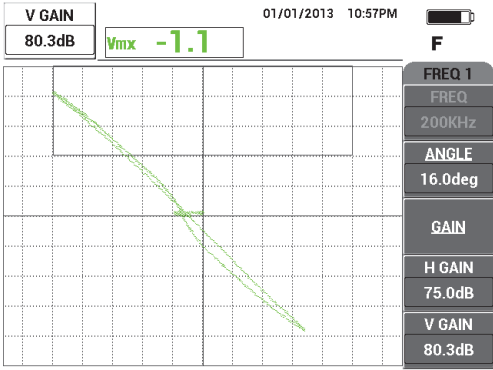

Figure 5-58 The signals extending vertically across the screen
- 7. Press the GAIN key (**dB**) 3 times to access the V GAIN parameter, and then increase the vertical gain with the knob until the signals reach about 80 % of the screen height (see Figure 5-58 on page 169).